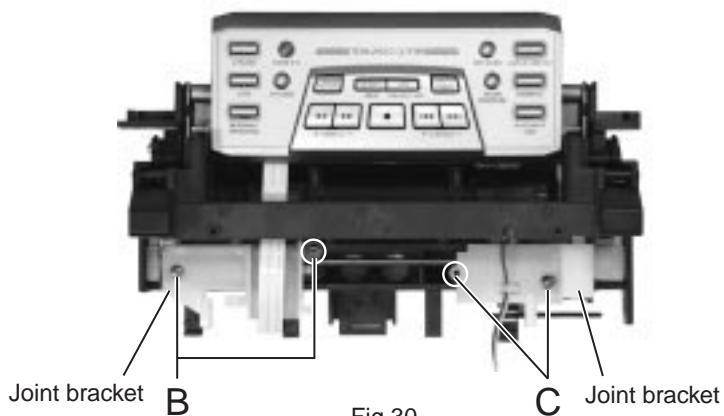

Fig.30
■ Removing the Drive Motor (See Fig.30 and 31)